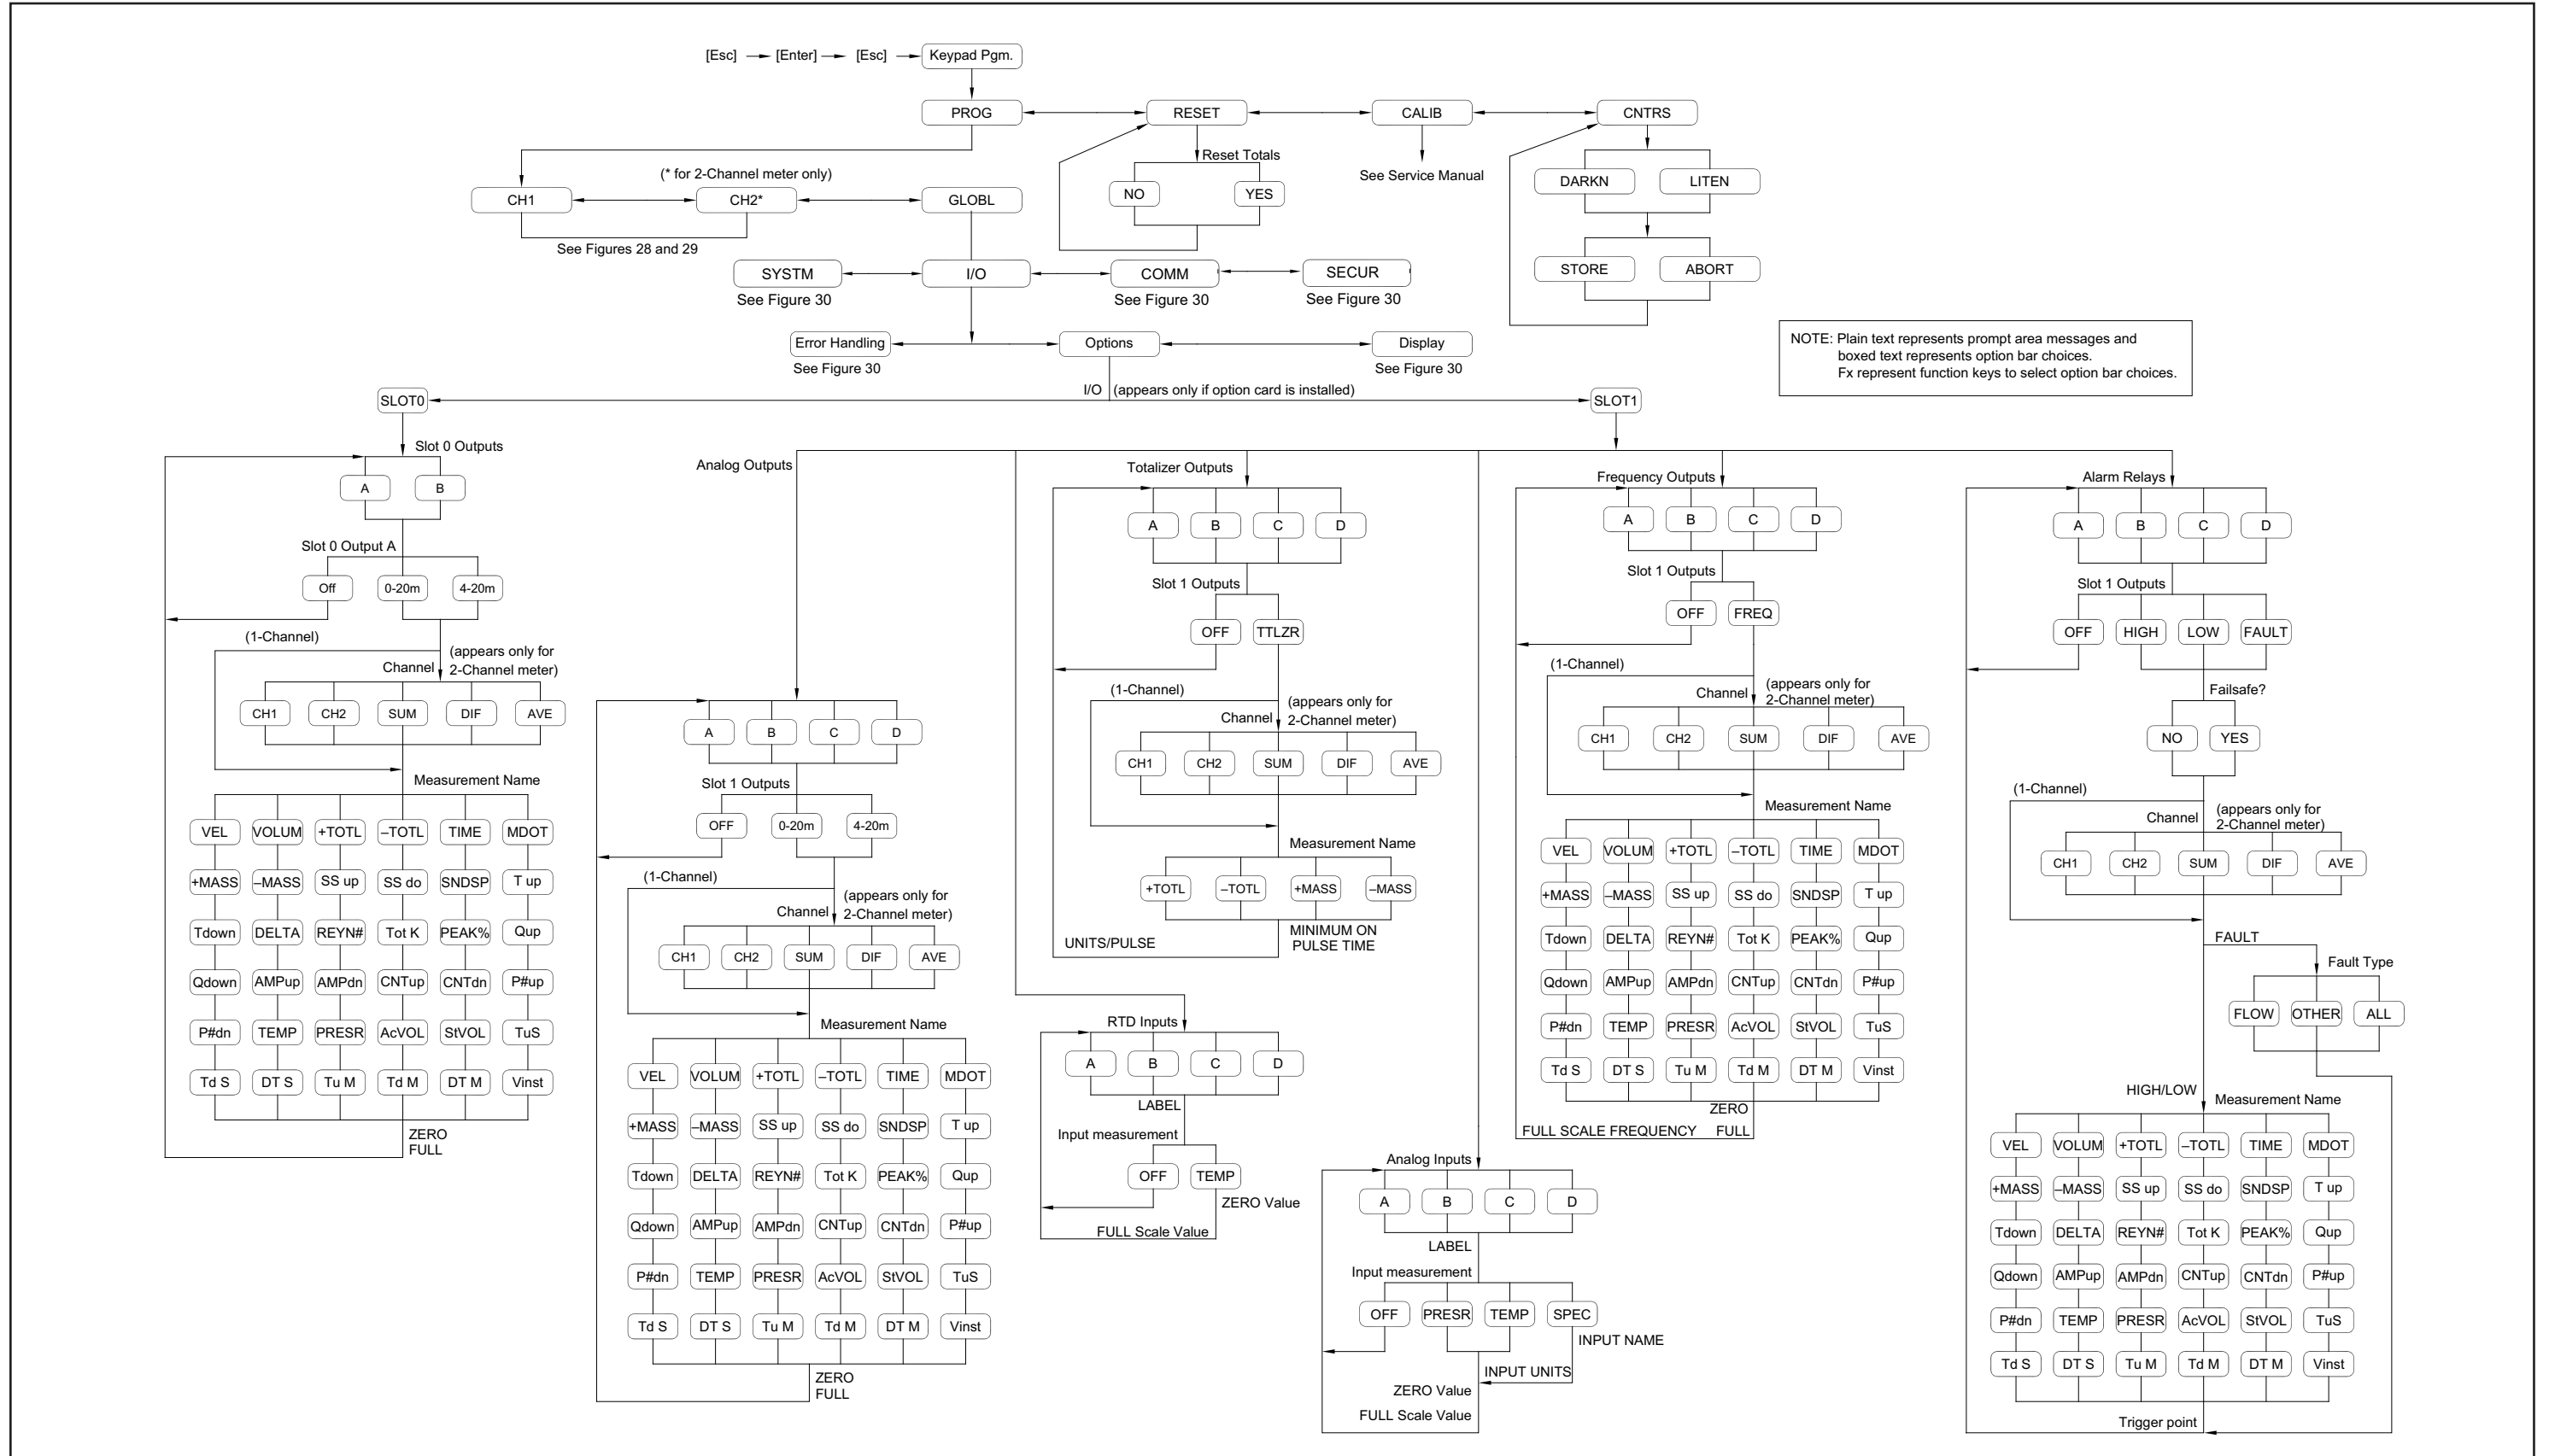

Figure 31: PROG > GLOBL > I/O > OPTIONS Menu
- Figure 31, “PROG > GLOBL > I/O > OPTIONS Menu,” on page 76